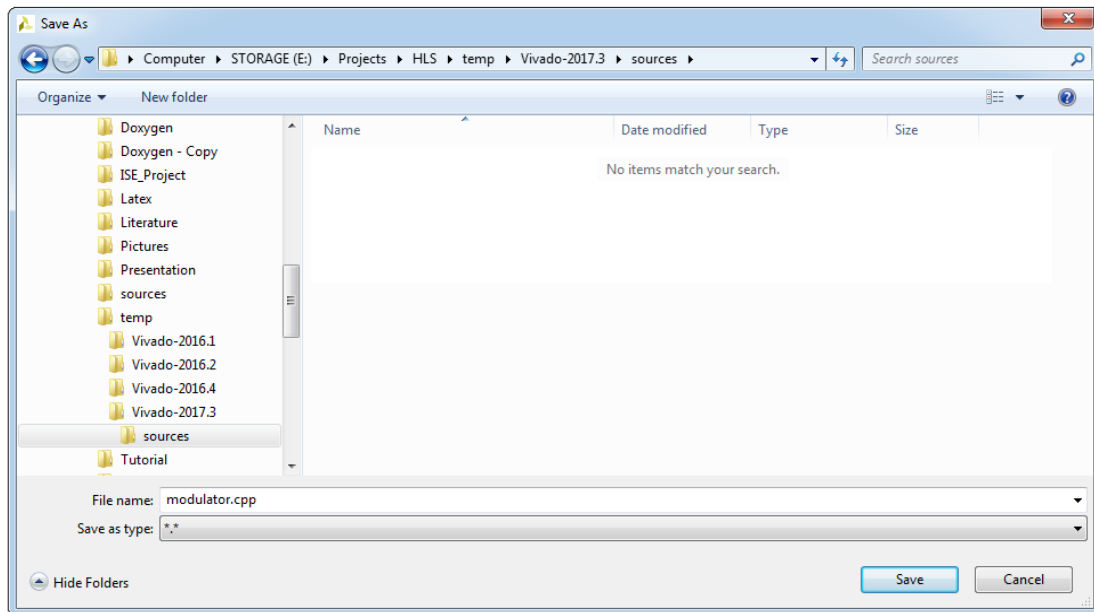

Figure 2.4: Save As dialog box
- Click **New File...** button and in the **Save As** dialog box specify **modulator.cpp** as a new file name in the **File name** field and click **Save**, see Figure 2.4.